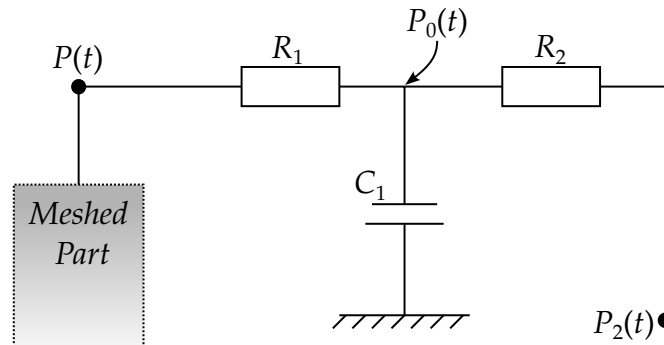

Figure 7-3. WTYPE = 7 and 8 circuit
3. **WTYPE = 7 and 8.** See Figure 7-3 for a diagram of the circuit. The equation solved at the boundary is: